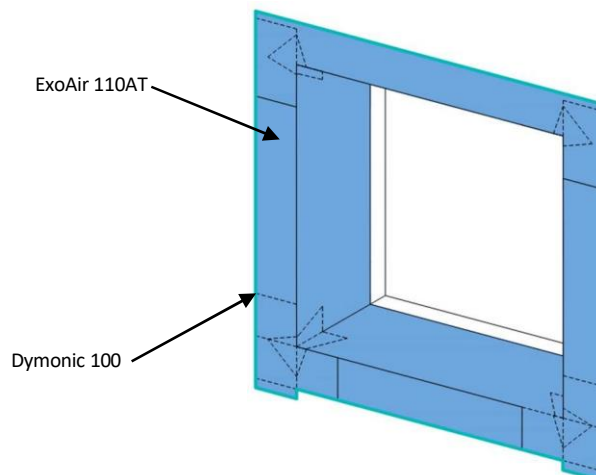

Fig. 17
- g. Apply and tool Dymonic 100 sealant on ExoAir 110AT edges and any other negative laps/skyward facing edges. Dymonic 100 shall extend a minimum $\frac{1}{2}$ " onto both the ExoAir 110AT and the underlying substrate. Using a mil gauge, ensure that a minimum of 40 wet mils have been applied; if not, reapply sealant to achieve 40 wet mils. – Figure 17.